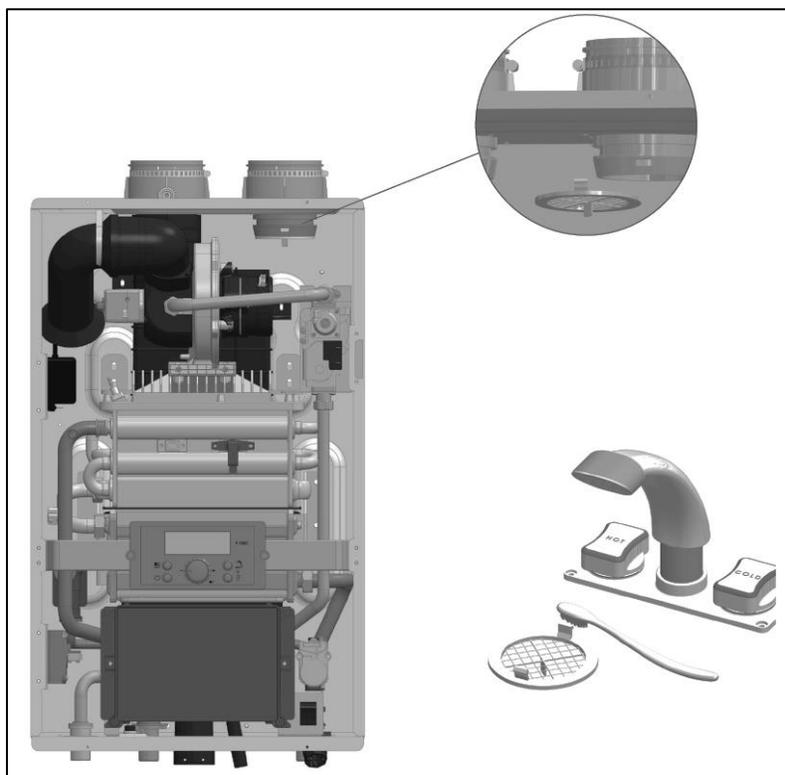

Figure 36 – Cleaning the Air Intake Filter
6. Remove the filter from the plastic assembly and clean it with a toothbrush and clean running water. See Figure 36.